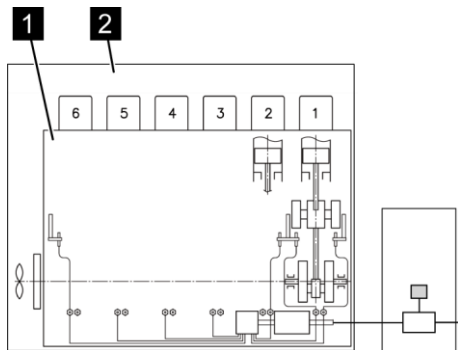

Fig. 19: Danger zones
- Inside the engine (Fig. 19/1)
- Inside the engine room (Fig. 19/2)